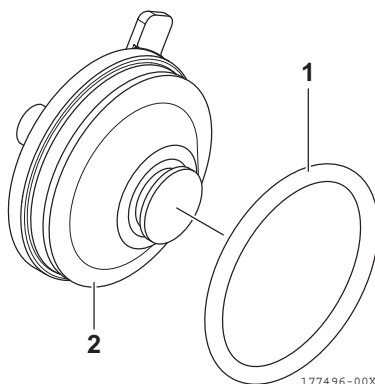

Figure 19
10. Lightly apply lubricating oil to the new O-ring (1, **Figure 19**), and install it in the provided slot on the cover assembly (2, **Figure 19**).